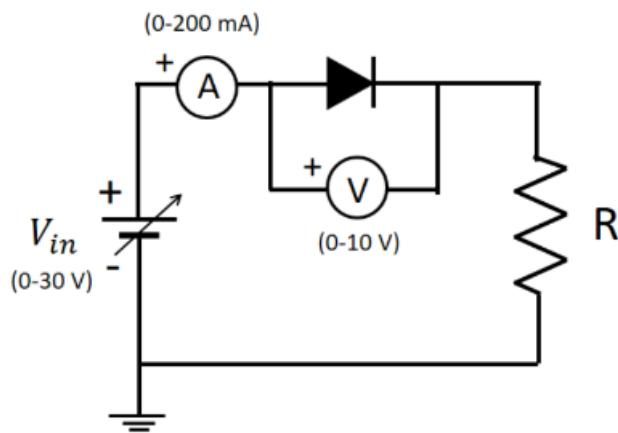

Fig. 4.1: circuit diagram of PN diode
1. Connect the power supply, voltmeter, ammeter with the diode as shown in the figure above. Use two multimeters, one to measure current through diode and other to measure voltage across diode as shown in the Figure 4.1.